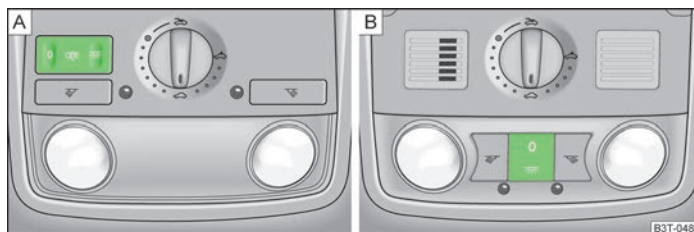

Fig. 37 Interior lights at the front
- Press the switch in the area of the symbol  » Fig. 37.
- Place the switch into the middle position. On vehicles without an interior monitor, the middle position is marked with the symbol  » Fig. 37 - .